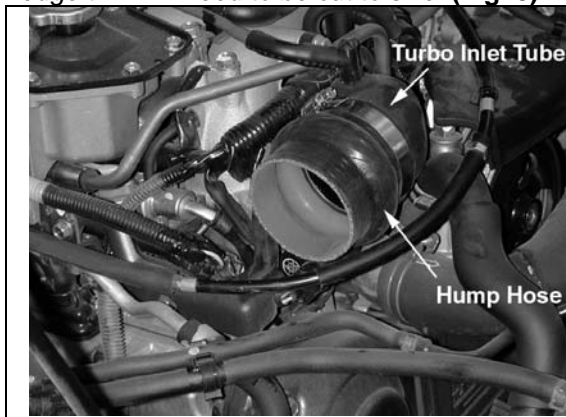

Fig. 7
- b) Install the 2.75" Hump hose onto the turbo inlet tube using a 2.75" hose clamp. **(Fig. 7)**